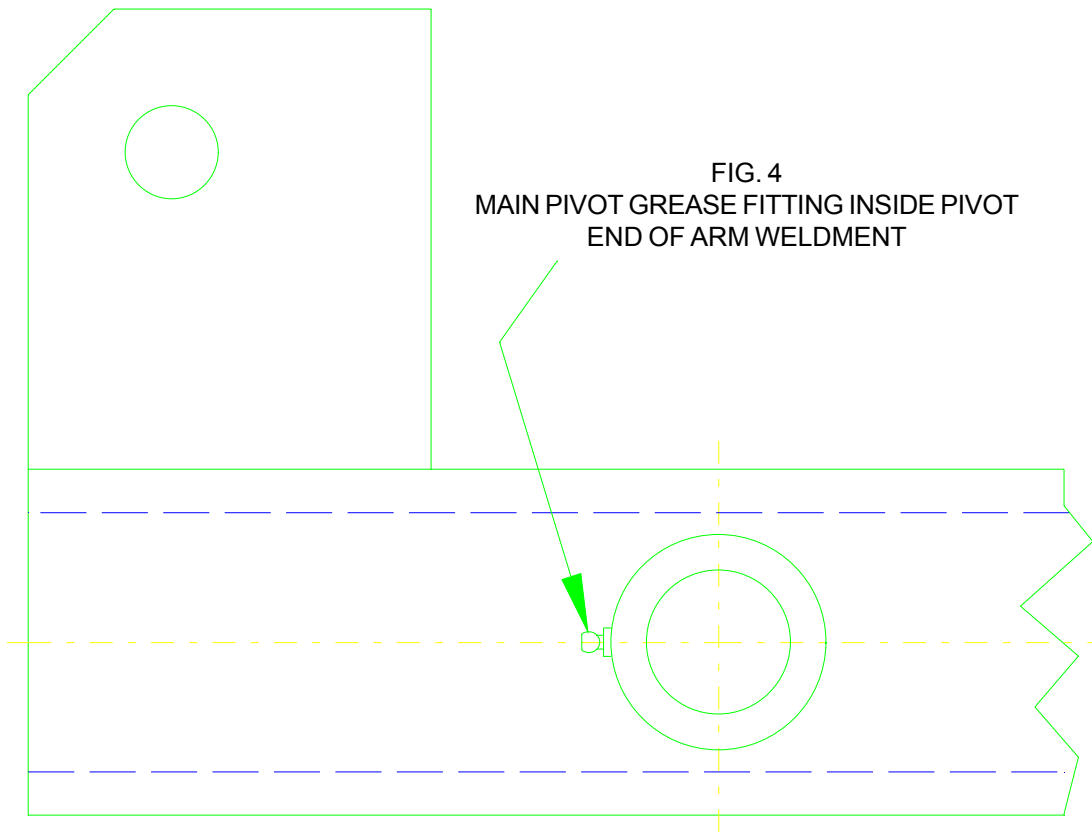

Figure 4
11. Connect lifting cylinder rod to barrier arm using pin provided in cylinder. Grease arm pivot pin, per maintenance instruction in owner's manual at pivot tube (Figure 4). Replace rear cover if removed during installation.
7. Use grease zerk located inside barrier arm (Page 5, Fig 4) to lubricate the pivot pin. Use lubriplate No. 18339 Multi-purpose grease or equivalent.